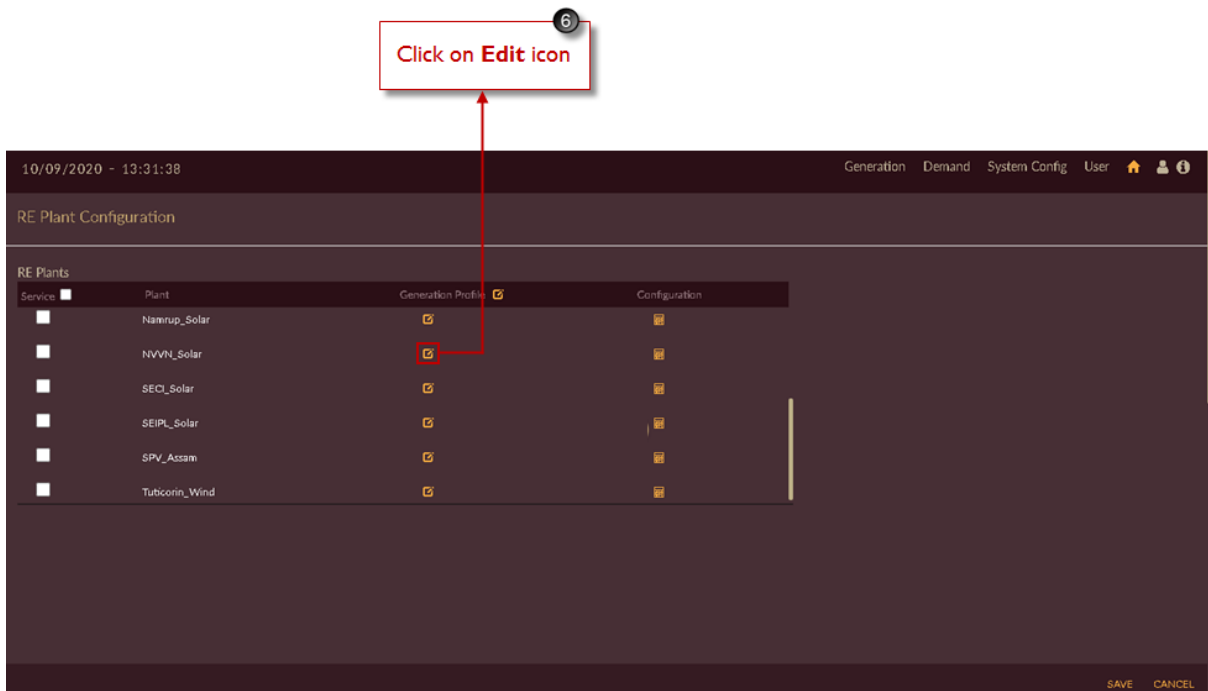

Figure 218. Edit/View Configured RE Generation Portfolio for Plant
- Click on **Edit**  icon of respective plant for which you want to see or edit the data. Here **NVVN Solar** plant is selected in Figure 218.